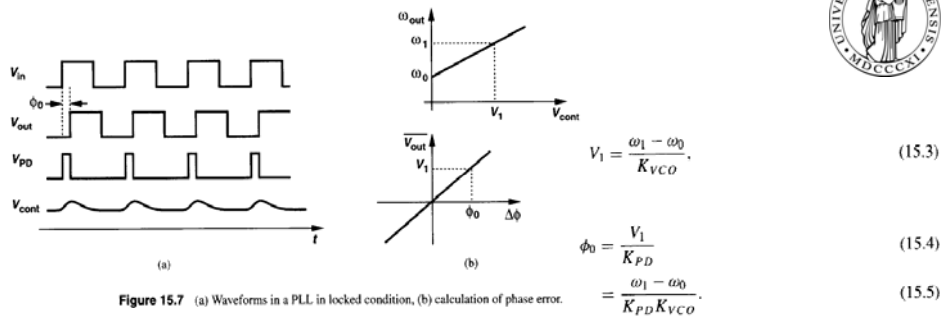

Figure 15.7 (a) Waveforms in a PLL in locked condition, (b) calculation of phase error.
- Unknown quantities in Fig.15.7 a)  $\phi_0$  and  $V_{cont}$ . To find these values the characteristics of the VCO and PD are constructed.